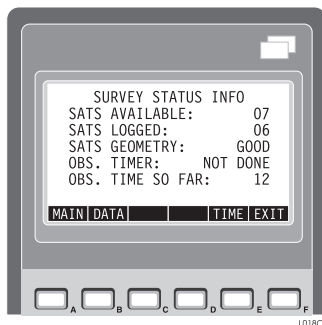

Figure 3.42: Survey Status Info Screen - Data Available Screen
2. Hold the Handheld IR port no more than four inches from the Locus IR port, and press the **B (DATA)** key. After about 10 seconds, the display indicates the status of the survey (Figure 3.42).